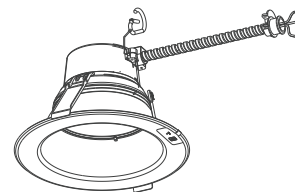

Figure 4-2
2. Attach the test indicator to the fixture surface using the pre-installed double-sided adhesive tape (refer to Figure 4-2).